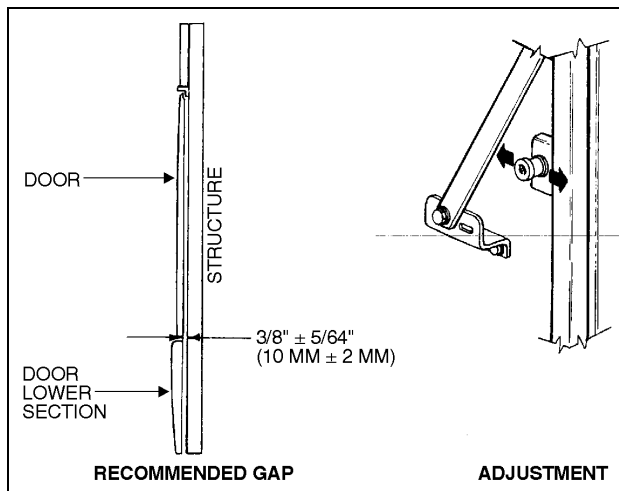

FIGURE 28: BAGGAGE COMPARTMENT DOOR 18070
10. With door well-closed, it should have a gap of  $3/8" \pm 5/64"$ , ( $10 \text{ mm} \pm 2 \text{ mm}$ ) between door panel lip (at level of upper edge of lower section) and structural post. If not, horizontally move pins again until correct gap is obtained. Fully tighten the pins after adjustment is achieved. Refer to figure 28.